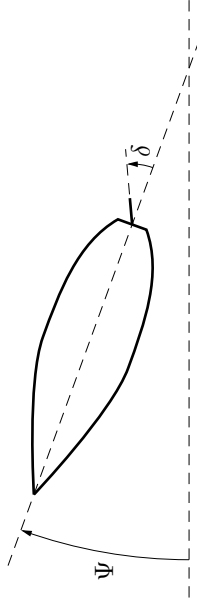

Figure 4.2a
4.2 We want to keep a ship on a given course,  $\Psi$ , with an automatic control system using the rudder angle  $\delta$ . See Figure 4.2a. If  $\omega$  denotes the angular velocity of the ship,